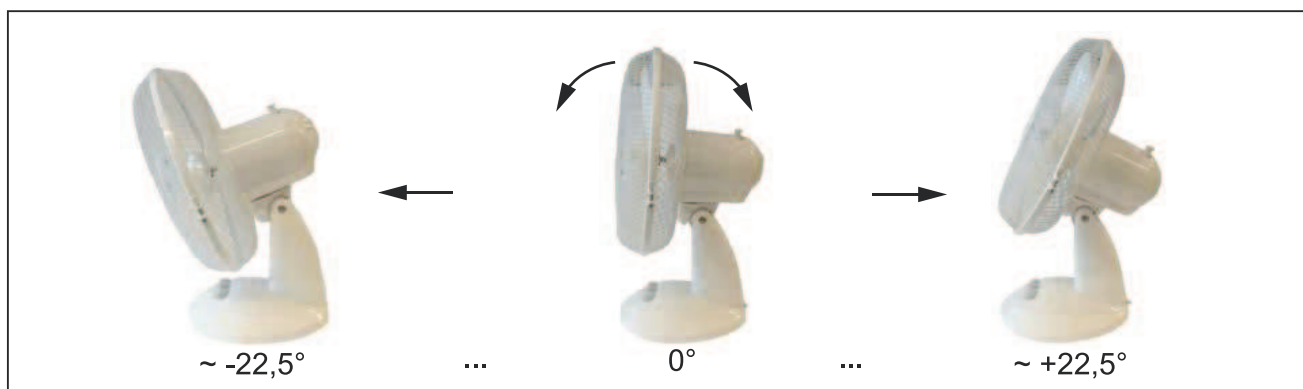

Fig.19: Adjusting the angle of inclination
4. Tilt the fan to the desired position from which the blower should come. See Figure 19.